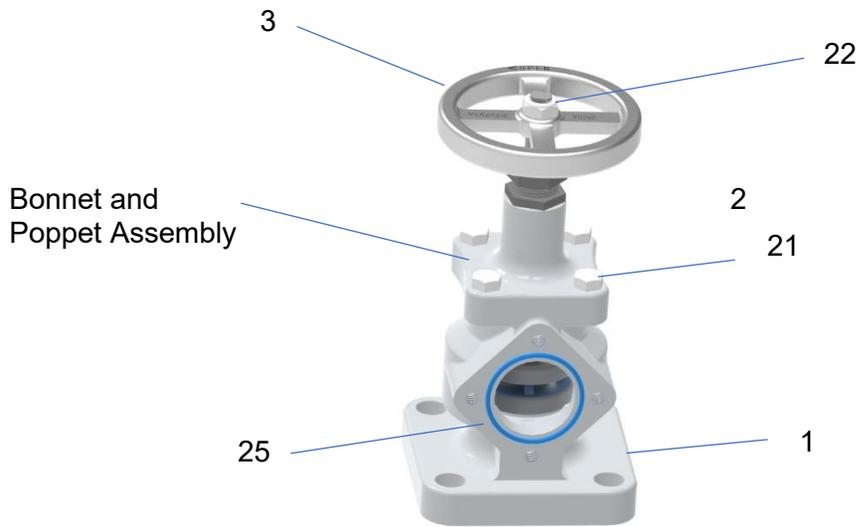

Figure 17
11.46. Refer to Figure 17.
11.54. Insert o-ring (25) into the groove as shown in Figure 17.